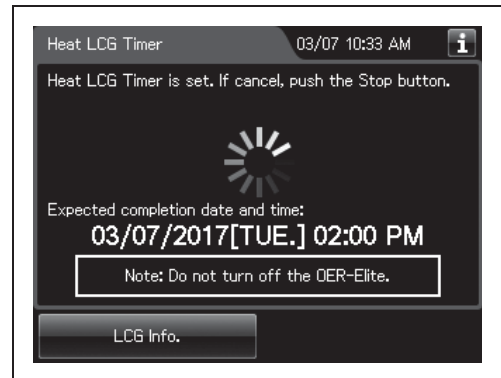

Figure 7.14
- 4 Press the “Start” button on the touch screen. Then, the Heat LCG Timer is started. The touch screen display changes as shown Figure 7.14 and appear to turn off after 5 minutes of inactivity, the touch screen appears to turn off and the Heat LCG Timer enters the standby mode.